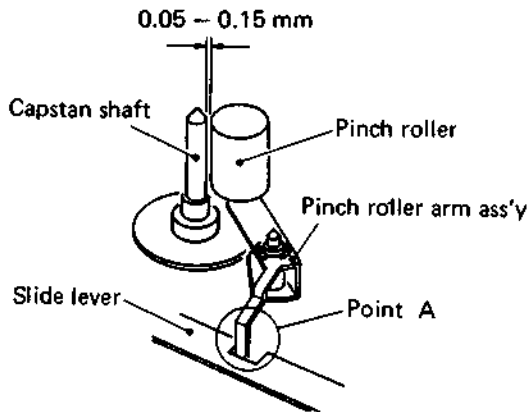

Fig. 5-24 Pinch roller spacing
5. Check for 0.05 to 0.15 mm spacing between the pinch roller and capstan shaft. If necessary, adjust by bending point A of the pinch roller arm as shown in Fig. 5-24.